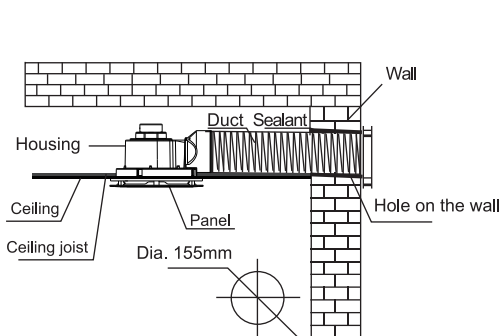

Figure 1: Installing ducting (sold separately)
Step 4. If ducting is required for ventilation, install a 150mm duct pipe to the exhaust fan and lay the ducting across the ceiling and onto a suitable 150mm exhaust vent (see figure 1)